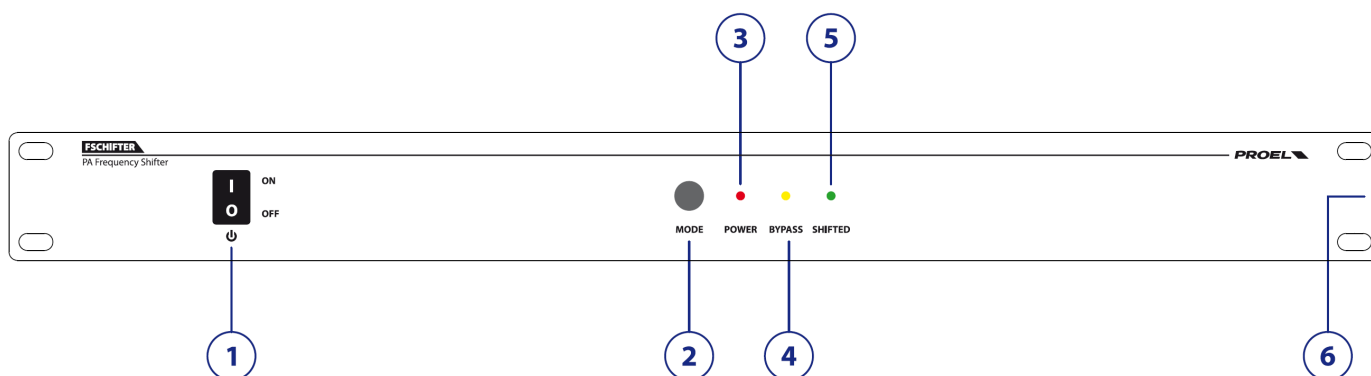
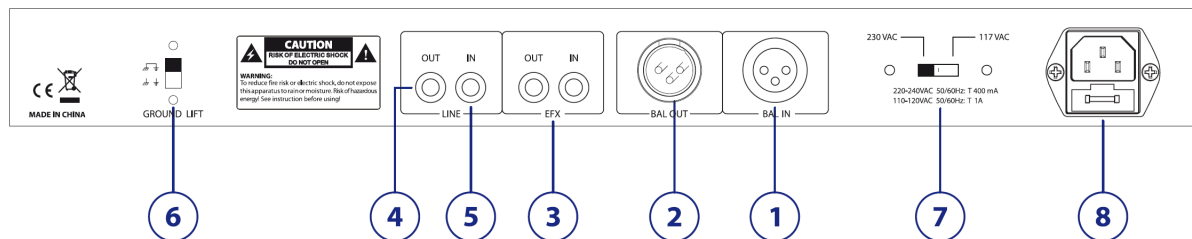

fig.1
fig.2
Wire connections as shown in the following schematic, connect the plug (fig. 2, ref. 8) to a power outlet and turn the main switch (fig. 1, ref 1) to the ON position.
When the Larsen effect occurs, activate the SHIFT function by pressing MODE (fig. 1, ref 2), if even with the SHIFT enabled we are in the presence of the Larsen effect, reduce the gains of the microphones on the mixer or the levels of signal in the output amplifier stage.